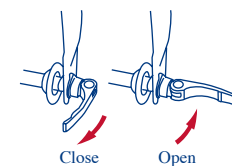

Fig. 5
- Close the lever (Fig. 5) and you should feel significant resistance and the wheel should be held tightly. If you do not, open the lever and tighten the finger nut a bit more and close the lever again. Continue to do this until the wheel is held tightly in the fork.